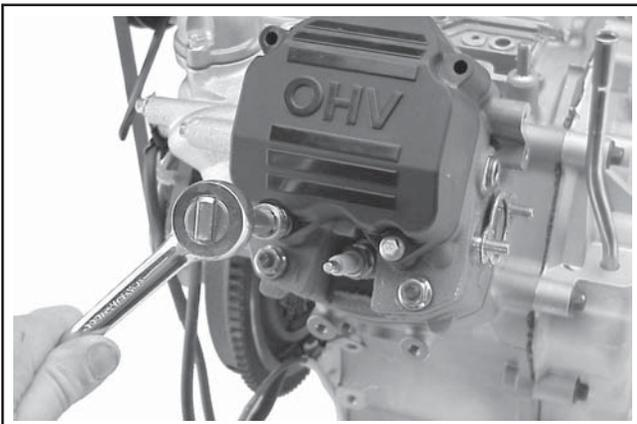

Figure 9-29. Removing Two Lower Valve Cover Screws.
1. Remove the hex flange screws from the two lower valve cover mounting locations on each side. See Figure 9-29.